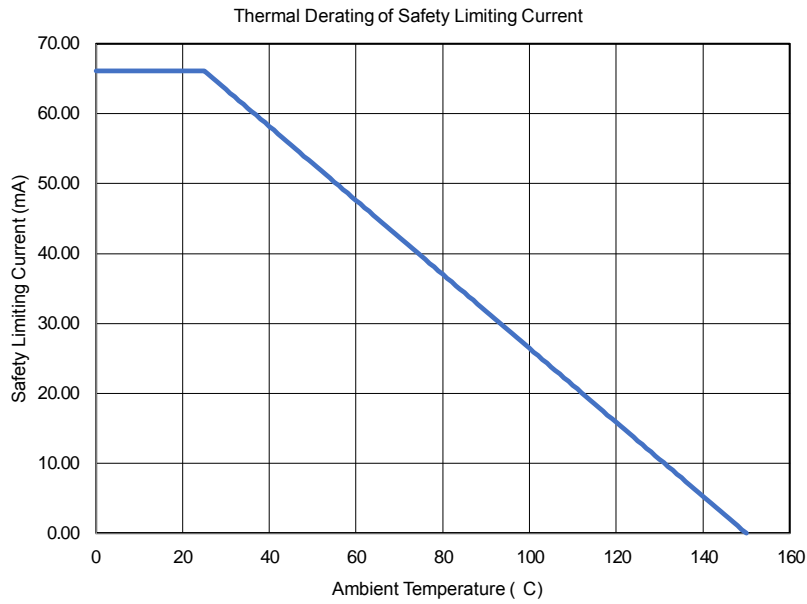

Figure 4.2. NB SOIC-16 Thermal Derating Curve, Dependence of Safety Limiting Values with Case Temperature per VDE 0884-10
1. Maximum value allowed in the event of a failure. Refer to the thermal derating curve in [Figure 4.2 NB SOIC-16 Thermal Derating Curve, Dependence of Safety Limiting Values with Case Temperature per VDE 0884-10 on page 23](#).